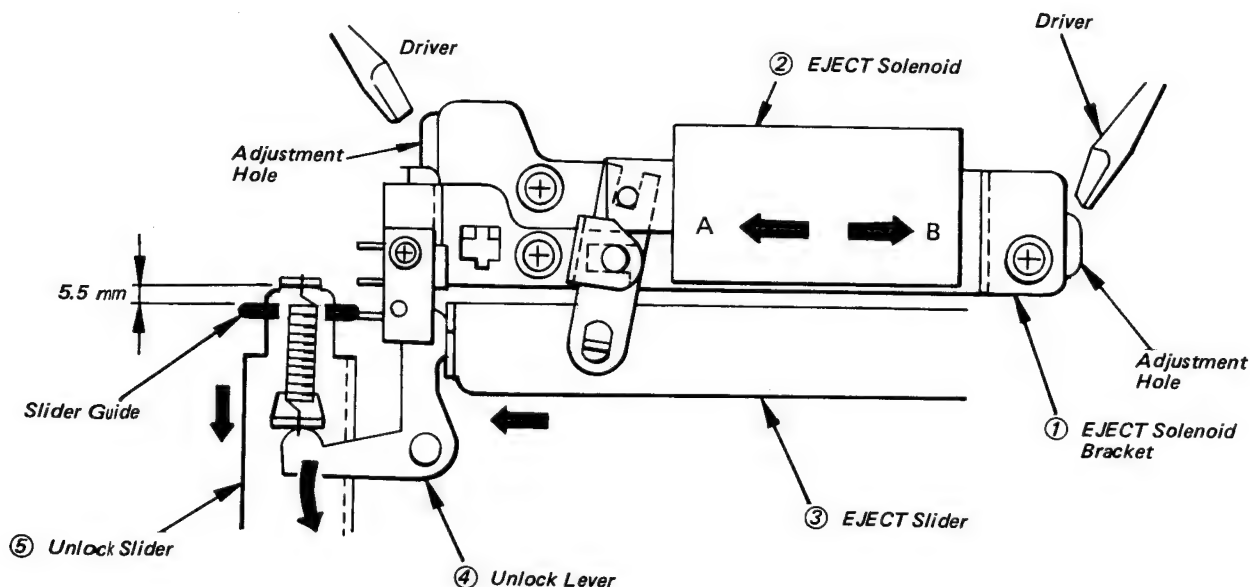

Fig. 5-74 Eject Solenoid Adjustment
### 23-2. Adjusting (see Fig. 5-74, 5-75)
4. Loosen the screws holding eject solenoid bracket ①. (open the Video Board.)
5. Slide the eject solenoid bracket ① in the B direction (→).
6. Set the VTR in the eject mode of operation to energize the eject solenoid ② to extract the plunger core.
7. Insert a braded screwdriver into the reel drive chassis adjustment hole and move the eject solenoid bracket ① in the A direction (←). The eject slide ③, then, actuates the unlock lever ④ to move the unlock slider ⑤ downward (↓).
8. Tighten the two screws where the clearance between the spring suspending bent portion of the unlock slider ⑤ and the slide guide on the reel drive base is 5.5 mm.
9. After adjustment, make certain that when the eject solenoid ② is energized to attract the plunger core, the eject slide ③ is cleared around 1 mm off the unloading sublever ⑥ (see Fig. 5-74, 5-75).